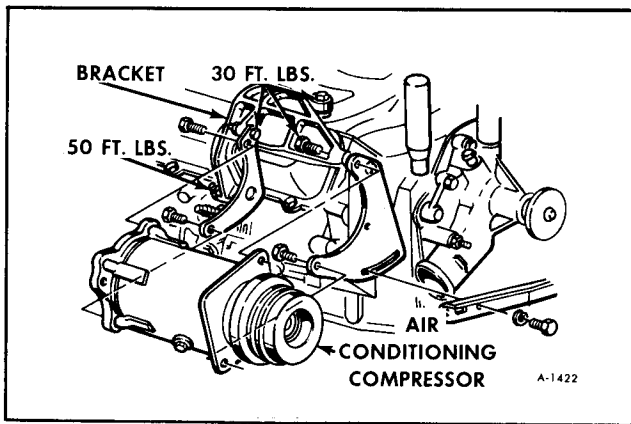

Figure 12—Air Conditioning Compressor Mounting
5. Remove air conditioning compressor bracket (if so equipped). See Figure 12.
11. Install air conditioning bracket (if equipped). See Figure 12.
4. Loosen belts and remove accessories and mounting brackets as necessary. Vehicles with air conditioning, it will be necessary to wire the air conditioning compressor up for support after removing its bracket. See Figure 12.